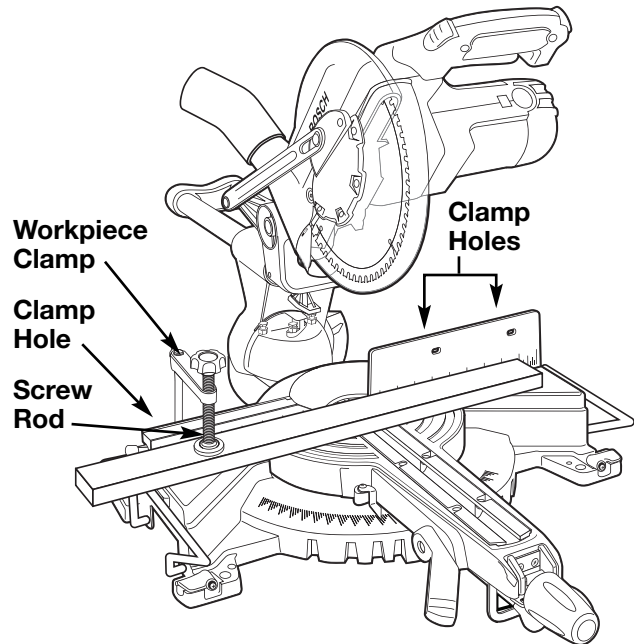

Figure 20. Workpiece Clamp
**Workpiece Clamp** - This clamp easily secures a workpiece in any of three (3) clamp holes behind the fence (Figure 20).